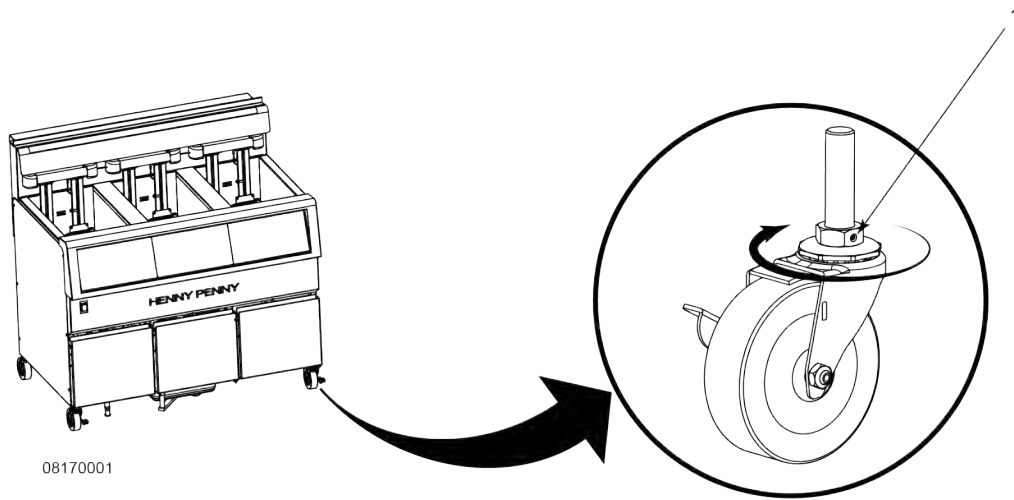

Figure 2-3 Castor Adjustment
- 1) Loosen the hex key set screw (1) for the caster that needs to be adjusted, see Figure 2-3 Caster Adjustment, page 8.
- 3) Check the level (1) on top of the fryer to ensure the caster has been adjusted properly.